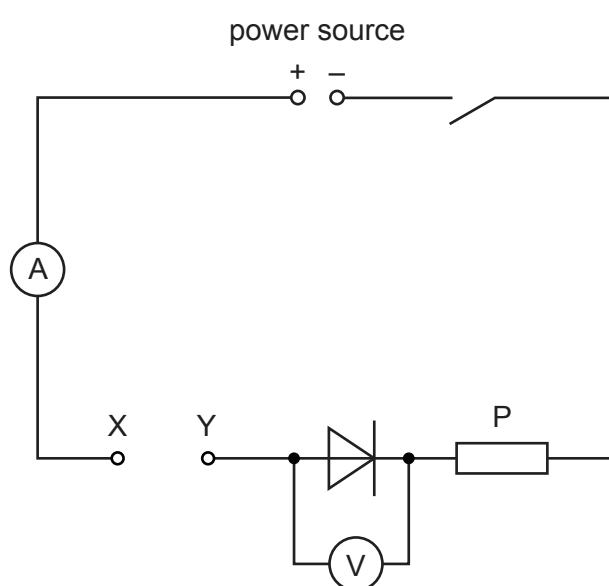

Fig. 1.1
- sufficient connecting leads to assemble the circuit shown in Fig. 1.1 (see Note 7)
- 6 The resistors labelled 3.3Ω , 6.8Ω and 10Ω must be placed by the side of the circuit shown in Fig. 1.1.
- 7 The supervisor should assemble the circuit as shown in Fig. 1.1. The terminals X and Y must be clearly labelled and a gap left between them. The supervisor must check the circuit by connecting terminals X and Y with one of the additional connecting leads and closing the switch. Readings should be obtained on the ammeter and voltmeter. If the ammeter reading is zero, the supervisor should check that the diode has not been connected the wrong way round. After this check has been carried out, the switch must be opened and the connecting lead between terminals X and Y must be removed and placed by the side of the circuit with the other connecting lead and the 3.3Ω , 6.8Ω and 10Ω resistors.
The circuit must be restored to its original state as shown in Fig. 1.1 with a gap between terminals X and Y. The supervisor should repeat the test described in Note 7 to check that the voltmeter and ammeter readings have not changed significantly. If the current is zero, then the diode must be replaced. The leads and resistors must be placed by the side of the circuit.